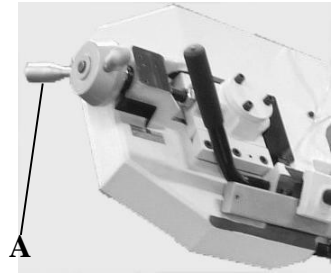

Fig. 1
To tension the blade, turn the blade tension handle (fig. 1)(A) clockwise. The scale is graduated to indicate blade tension of 20,000, 30,000 and 35,000 pounds per square inch (psi). For carbon blades, the blade should be tensioned at 20,000 psi. For bi-metal blades (similar to the one supplied with the machine), the blade should be tensioned at 30,000 or 35,000 psi. Always release blade tension at the end of each working day to prolong blade life. Make sure the blade is tensioned correctly before checking or adjusting tracking. The blade is tracking properly when the back of the blade is just lightly touching the wheel flanges of both wheels while the machine is running.